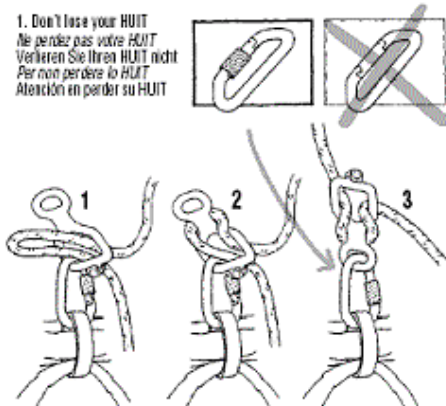

Figure of 8 (or Huit)
- Common types of descenders (Figure of 8, Rapel Rack, Gold Tail, Piton Brake Bar & others)
- Basic knots (tape knot, figure of 8, prusik knot, double fisherman's knot)
A commonly used descender is the Figure of 8 (or Huit) which has the advantage of low cost and simplicity but the disadvantage that it tends to twist the ropes (especially when the ropes are wet) and can be dropped and lost whilst attaching to and detaching from the rope - a method of attaching a Figure of 8 so as to avoid this problem is shown below.
Put on your harness, attach a large "D" carabiner to the anchor point on the harness and attach your descender to the "D" carabiner. Make sure all buckles are securely tied, all gates securely locked and the descender securely and correctly fixed. Now pass the rope through the descender making sure that the tail falls to your natural side (*with a Figure of 8 the rope is placed through the descender before it is locked into the carabiner*). Stand facing the belay point with the tail rope falling to your natural side. Put on your gloves. Perform the A B C D E (or A R C H E R) check. Have another party member, who is safety belayed, perform a "buddy" check. Check to see that the abseil rope is not snagged or tangled and do a quick check to see where you are going and where to put your feet.